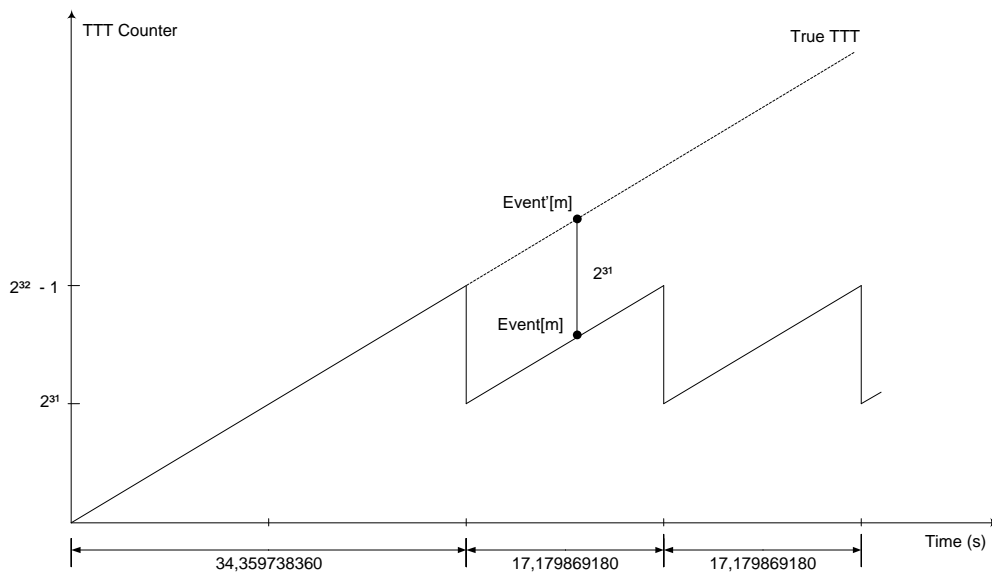

Fig. 9.8: TTT description.
- **TRIGGER TIME TAG** (bits[31:0] of 4th header word) is the 31-bit Trigger Time Tag (TTT) information, which is the trigger time reference (see Sec. 9.8.3). The word is composed of the value of the 31-bit counter of the Trigger Time Tag (bit[30:0]) plus the overflow bit (bit[31]) indicating that the timestamp counter has overflowed at least once (**Fig. 9.8**). If the ETTT option is enabled, then this field becomes the 32 less significant bits of the 48-bit Extended Trigger Time Tag information in addition to the 16 bits (MSB) of the TRG OPTIONS field (2nd event word). Note that, in the ETTT case, the overflow bit is no more provided (**Fig. 9.9**). The trigger time tag is reset either at the start of acquisition, or via front panel signal on S-IN or LVDS I/O connectors, and increments with 250 MHz frequency (i.e. every 8 ADC clock cycles). The TTT value is read at half the frequency (i.e. 125 MHz) so that the specifications are 16 ns resolution and 17 s range ($8 \text{ ns} \times (2^{31} - 1)$), which can be extended to 625 h ($8 \text{ ns} \times (2^{48} - 1)$) if ETTT is enabled.